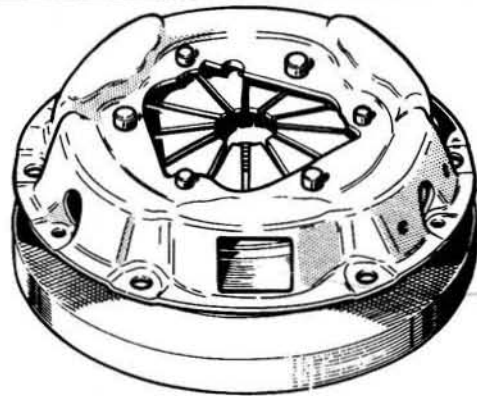

Fig.5.17. Clutch and base plate of tool inverted
- 27 Place the base plate of the tool on to the rivet heads and invert the clutch and base plate (Fig.5.17).